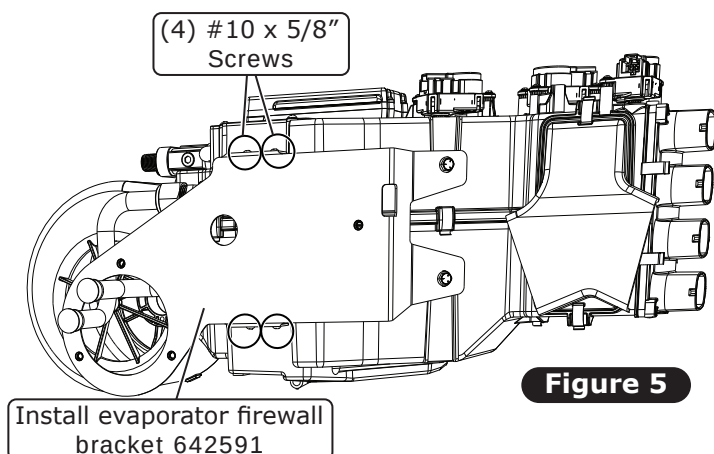

Figure 5
8. Install the passenger-side bracket using (4) #10 x 5/8" screws (See Figure 5, below).